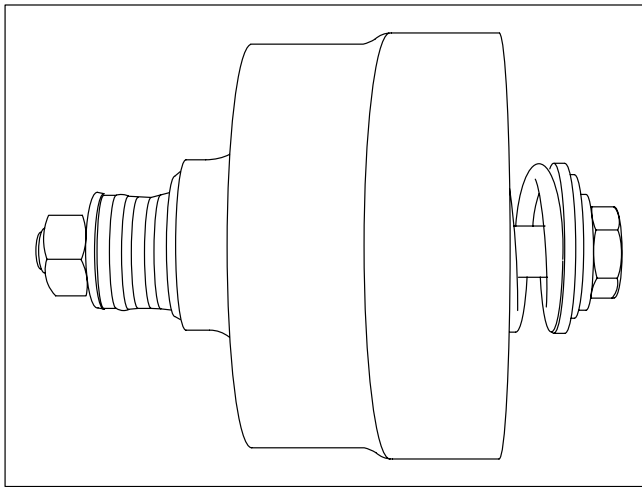

Figure 14. Cylinder block subassembly disassembly tool. (Tighten nut, remove snap ring, loosen nut to relieve spring tension).
*The spring located within the cylinder block S/A is under a high tension and can cause bodily harm if the retaining ring is removed. See Figure 14 for disassembly instructions.*
- a. Assemble the spring, two washers and retaining ring into the cylinder block. The washer with three notches is assembled next to retaining ring. See Figure 14 for instructions. Set the cylinder block S/A (34) face on a flat clean surface. Use Kraft paper between the block and surface to prevent scratching the cylinder block face.
- b. Install pin retainer (40) into cylinder block. Position the pin retainer approximately 1/4" below the surface, and orient the open end of the pin retainer to be away from the large spline openings.
- c. Slide the three pins (39) into cylinder block S/A (34) until they bottom against the spring washer within the block.
- d. Place spherical washer (41) on top of the three pins, then install shoe plate (42) with nine piston and shoe subassemblies (43) over spherical washer (41) and into cylinder block. Wobble shoe plate (42) to make sure that each piston is free within its bore in the cylinder block.
- e. Set housing (27) on its side and hold pump shaft (48) horizontal. Slide rotating group into the housing. Rotate the shaft to match the shaft splines to the cylinder block and spherical washer.
5. If alignment pins (31) were removed, install two alignment rollpins (31) into housing (27). Place gasket (30) over the rollpins, cover with Kraft paper and set aside for final assembly.